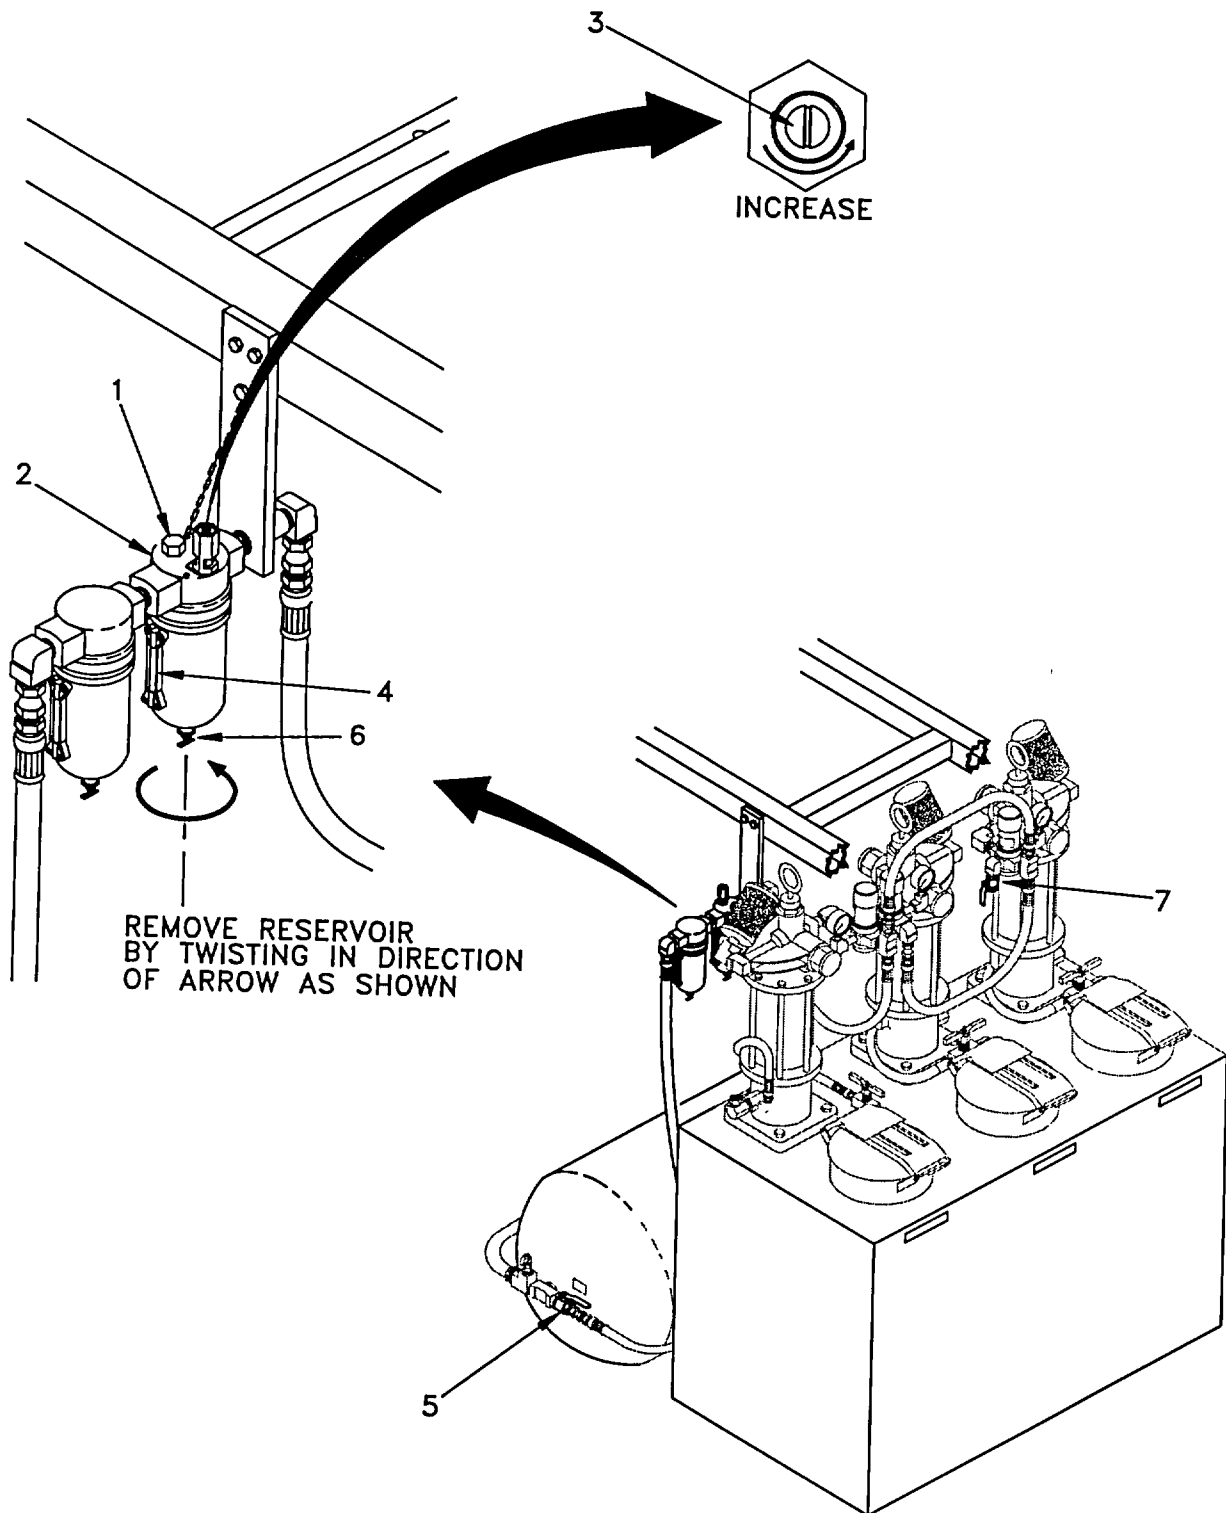

Figure 3-2. Alcohol Injector
a. Adjustment. (Refer to Figure 3-2.)
- (1) Remove reservoir (1) of alcohol injector (2) by grasping reservoir (1) firmly and turning counter-clockwise. Fill with methyl alcohol. Reinstall reservoir (1) by pushing it up into alcohol injector (2) top and turning it clockwise.
- (2) Start engine. (Refer to Section 2-9).
- (3) Close alcohol Injector (2) by turning adjusting screw (3) fully clockwise.
- (4) Open adjusting screw (3) approximately one quarter turn counterclockwise to establish drip rate of 20 drops/10 seconds.
- (5) During operation, inspect sight gage (4) frequently and fill alcohol injector (2) as needed.